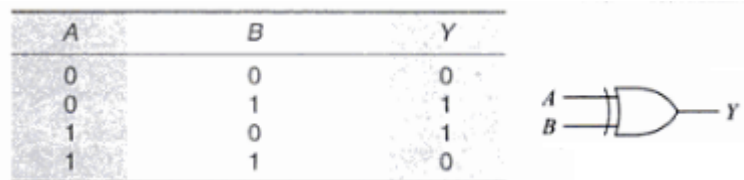

Figure 4.30: (a)Truth table (b)XOR symbol
- This produces output HIGH only when odd number of 1s is present at the input (Figure: 4.30).